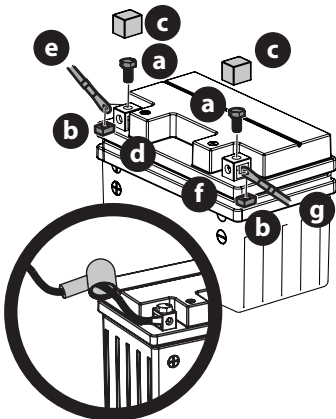

Fig. 22
- Remove the factory installed hex screws (a) and square nuts (b) located either on the end of the wiring harness or in the bag with this manual. Retain the hardware for later instructions (Fig. 22).
- Remove the plastic cover (c), if present, from the positive battery terminal (d) and attach the red cable (e) to the positive battery terminal (d) with one of the hex screws (a) and square nuts (b), from Step 1. Use a Philips screw driver (Fig. 22).
- Position the red rubber boot over the positive battery terminal to help protect it from corrosion (Fig. 22 inset).
- Remove the plastic cover (c), if present, from the negative battery terminal (f) and attach the black cable (g) to the negative battery terminal (f) with the remaining hex screw (a) and square nut (b) (Fig. 22).